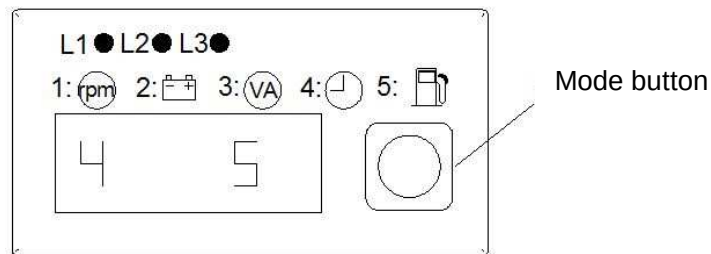

Figure 19
(1) Figure 19 is the display of running hrs. When the mode button selects mode 4, the displayer shows generator running hrs.